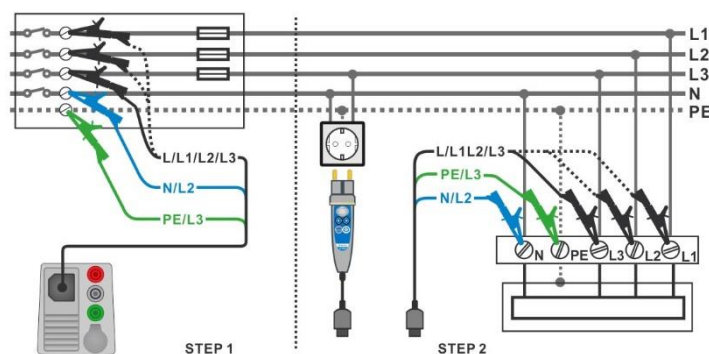

Figure 7.129: AUTO TT measurement
- ▶ Connect 3-wire test lead or Plug commander to the object under test, see Figure 7.129.